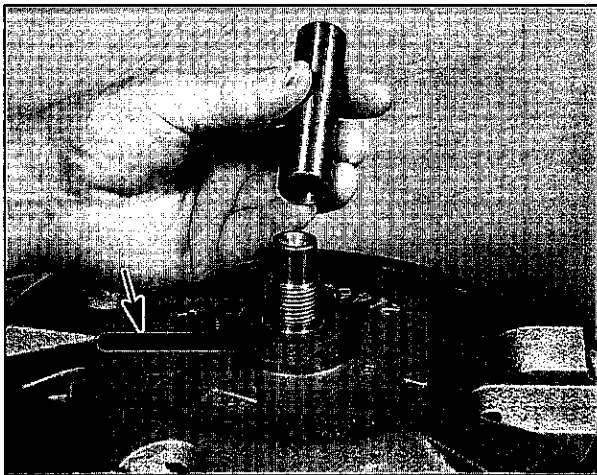

Fig. 18
3. Mark the flywheel (arrow) as shown to locate the flywheel keyway when reinstalling, Fig. 18.